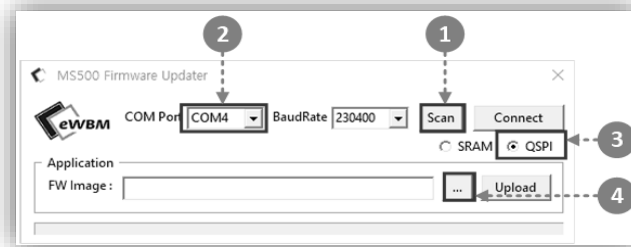

Figure 10. Firmware Update Tool
* Execute the firmware update tool as shown in Figure 10, and then follow the steps below.